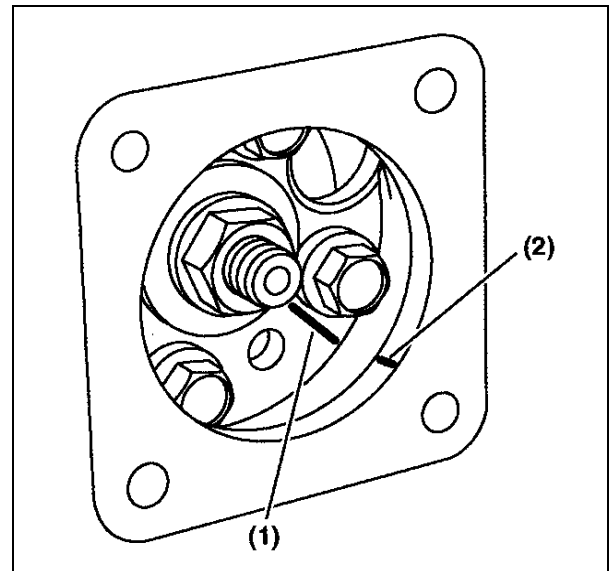

Figure 6
The idler gear is not visible. Make a reference mark on the fuel injection pump drive gear (Figure 6, (1)) and a matching mark on the bore of the gear case opening (Figure 6, (2)).